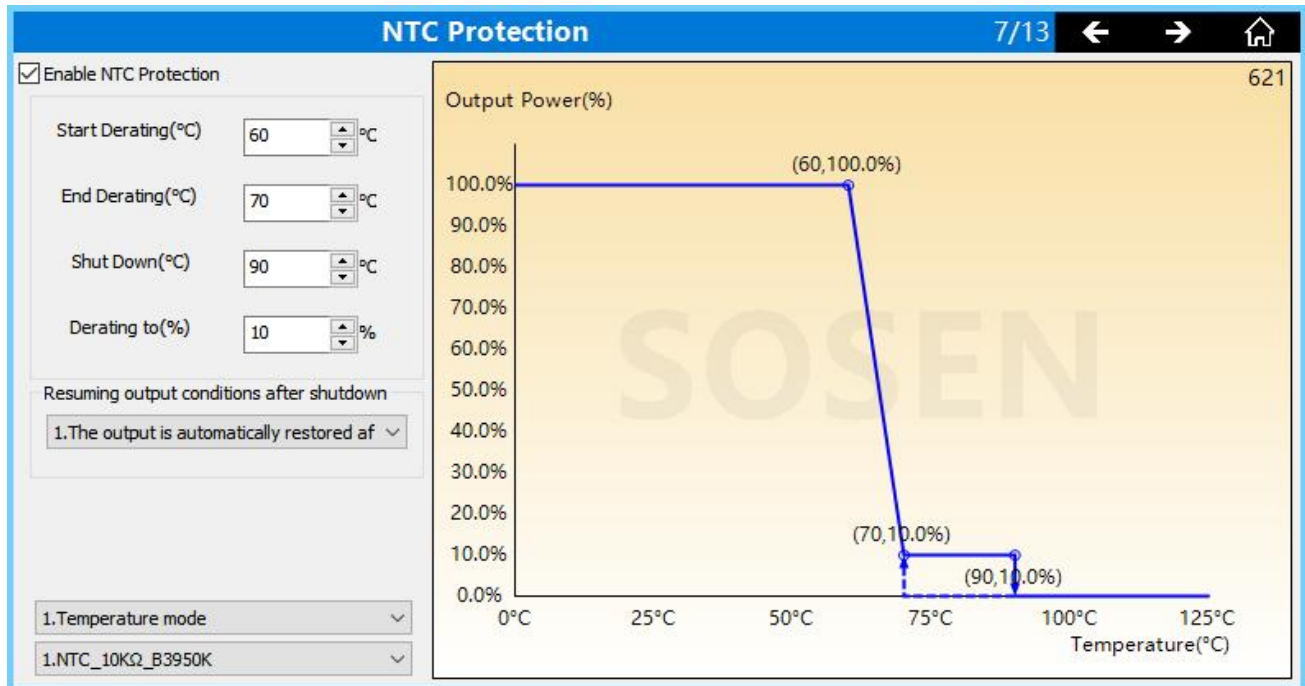

Figure 1
a. The NTC function supported by the D4i model is shown in the 621 Function screen shown in Figure 1. Models that support this feature are such as the 22PA-32F.
b. Operation Logic:According to the parameter setting shown in Figure 1, as shown in the blue line, when the temperature is lower than 60°C, the output power is 100%; when the temperature is greater than 60°C and less than 70°C, the output power runs according to the slanting line between 60°C and 70°C, and the output power will be accompanied by this lowering and raising as the temperature increases and decreases; when the temperature is greater than 70°C, the output power will be lowered to 10%, and keep at 10%; when the temperature is greater than 90°C, the output power will be turned off. ; when the temperature is greater than 90°C, the output will be turned off. Alternatively, setting the shutdown temperature to less than or equal to the temperature at which the end derating occurs will turn off the shutdown function and neither shutdown.